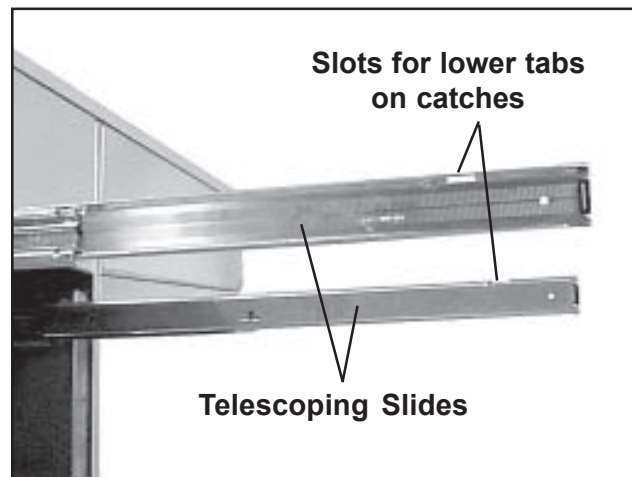

Figure 19. Drawer Telescoping Slides
4. Put the drawer tracks on the slides so that the tabs on the catches enter the slots on the slides (Figure 19).